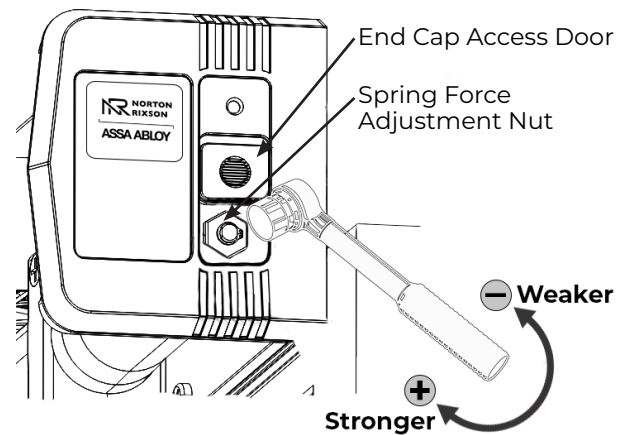

Figure 27 View of Right Side Operator
3. Using a ratchet with an 11/16" socket, turn the nut in end of closer body tube clockwise to increase or counterclockwise to decrease force until the desired setting is reached. (Figure 27)